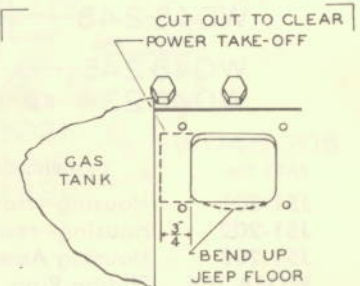

FIGURE 4
2. **TO INSTALL MODEL 50 POWER TAKE-OFF. (MODEL 150J WINCH ASSEMBLY).** Power take-off lever hole in Jeep floor must be cut out $\frac{3}{4}$ " wider to the left side of Jeep. The Jeep floor must also be hammered up slightly in order to clear power take-off (Fig. 4). The two shift levers of power take-off must be removed. Remove the five pipe plugs. Install power take-off by using the five $\frac{3}{8}$ x 1 Allen head cap screws and Hi-collar lock washers. It would be helpful in installing these five cap screws to use a $\frac{3}{8}$ " drive speed wrench with universal joint and a $\frac{5}{16}$ " hexagon tool approximately 3" long. Reinstall the five pipe plugs and shift levers.